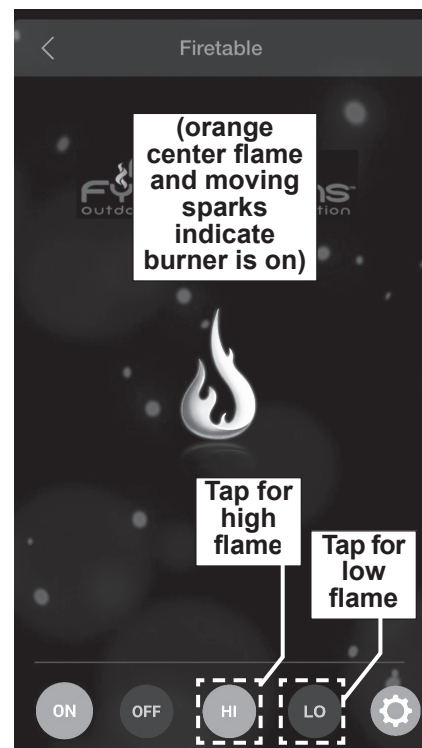

Fig. 41-1 Remote Operation:
1. Locate the **POWER** button on the control panel, and push it (see Fig. 41-1). The light will illuminate indicating the system is on and ready.
2. From within the app, proceed to the Devices screen and select your unit. The remote screen will appear. See Fig. 41-1.
3. Tap the **ON** icon found on the bottom left of your remote screen (see Fig. 41-1).
The flame height can be adjusted via the remote app. Tap the **HI (high)** button to increase the flame height. Tap the **LO (low)** button to decrease the flame height. See Fig. 41-1. (LO setting available after 60 seconds.)
To shut down the burner (system will remain on), tap the **OFF** icon found on the bottom left of your remote screen. The screen will no longer display the orange center flame and moving sparks. See Fig. 41-1. The **AUX CONTROL** button indicator light will also go off.
To shut down the burner and system (total shutdown), or if the remote app is unavailable, push the **POWER** button on the control panel. See Fig. 41-1. The **POWER** and **AUX CONTROL** button indicator lights will go off. (Fully power off when covering or when not in use.)